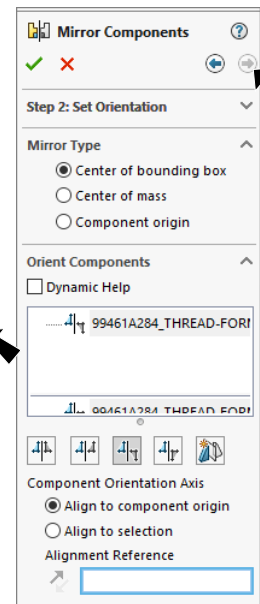

Fig. 11
Step 5. In the Mirror Property Manager: click OK or Next to see preview, **Fig. 11.**